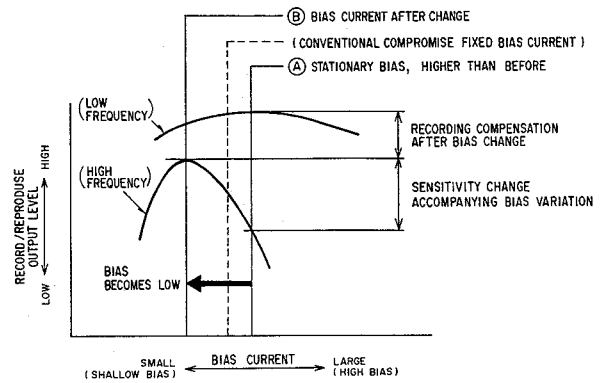
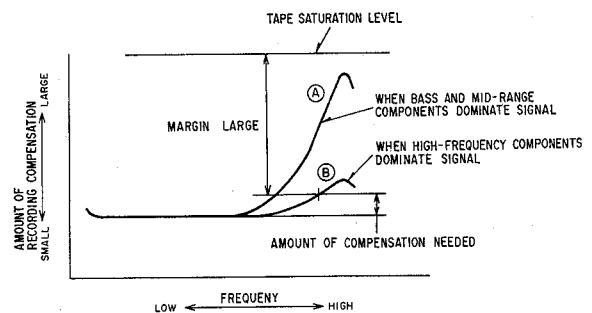

Fig. 3-36 Tape bias characteristic (2)
Fig. 3-37 Recording equalization characteristic (2)
- a. When bass and mid-range components dominate in the input signal or the overall level of the input signal is low, a fixed high bias is applied. (See Ⓐ in Fig. 3-36.) In this case, frequency response at low frequencies can be improved by selecting a bias more suitable for lower frequency content than the conventional fixed bias.
- b. When the input signal involves high-level, high-frequency components, bias is decreased instantly depending on the frequency components and level, increasing the sensitivity at high frequencies. (See Ⓑ in Fig. 3-36.)
- a. When bass and mid-range components dominate the input signal and bias is selected as Ⓐ in Fig. 3-36, tape sensitivity is low at high frequencies and, therefore, the recording equalization is that of curve Ⓐ shown in Fig. 3-37. With curve Ⓐ, the amount of boost at high frequencies is very large but the level of high-frequency components of the input signal is low. Therefore, distortion will not occur during recording.
- b. With high-level, high-frequency signals, bias is lowered. (See Ⓑ in Fig. 3-36.) With lower bias, tape sensitivity increases at high frequencies and the amount of recording equalization may be reduced, as shown by curve Ⓑ in Fig. 3-37.
c. Since the variable equalizer is basically a low-pass filter, reduction in turnover frequency results in increased attenuation at high frequencies. Because of this, the recording signal passing through the variable equalizer varies as curves A and B shown in Fig. 3-37.